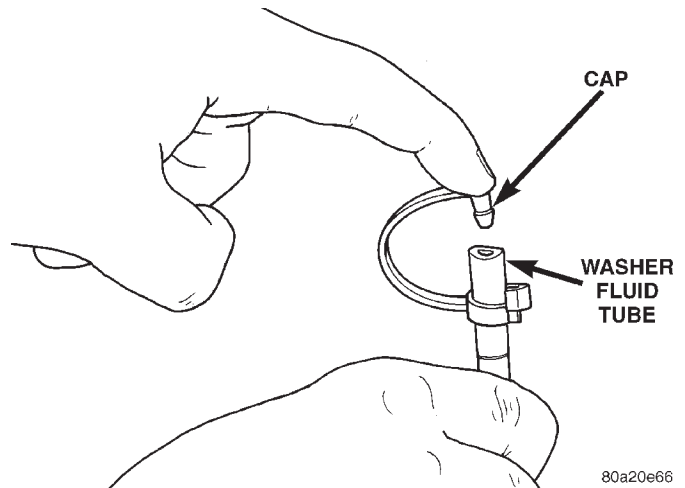

Fig. 45 Rear Washer Fluid Tube
- (4) Disconnect the rear washer fluid hose. Cap the hose to prevent washer fluid leakage (Fig. 45).
- (5) Remove the hard top from the vehicle.